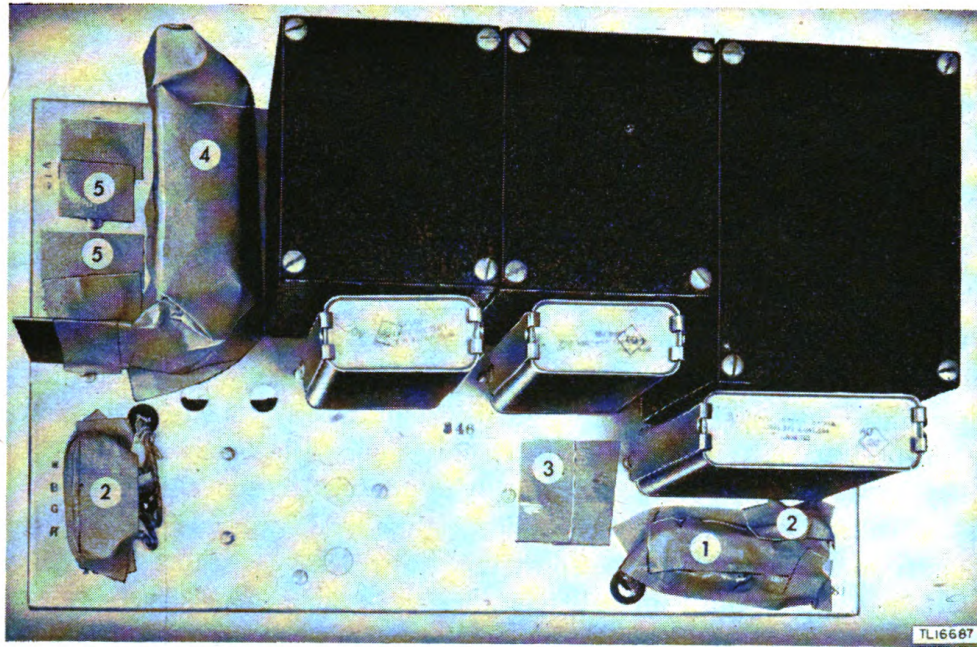
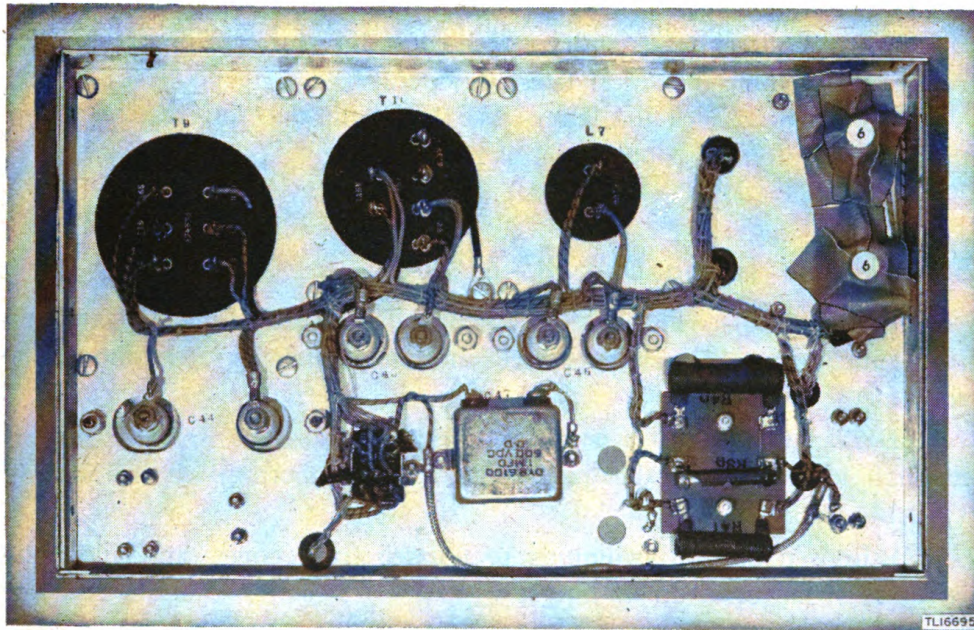

Figure 12. Radio Receiver and Transmitter BC-441-(*), masked power chassis—top view.
Figure 13. Radio Receiver and Transmitter BC-441-(*), masked power chassis—bottom view.
f. MASKING POWER CHASSIS (FIGS. 12 AND 13). Mask the following components:
- (1) Fuse clips.
- (2) Terminal screws on the power and handset terminal strips,
- (3) Interconnecting plug receptacle,
- (4) Two relays.
- (5) Tube sockets.
- (6) Bottom of tube sockets (fig. 13),